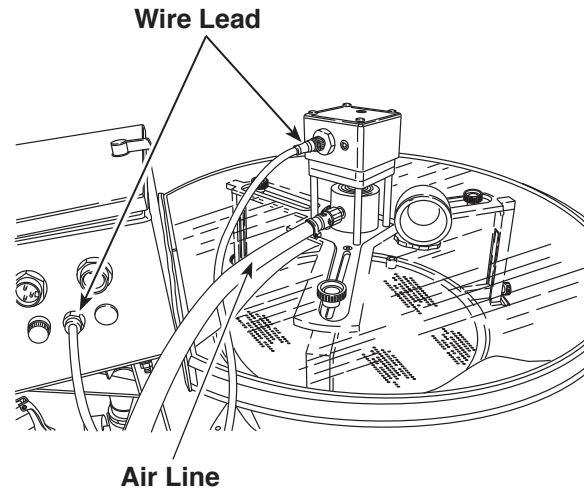

Figure 18
1. Detach the air line and wire lead from the fixture base. See Figure 18.